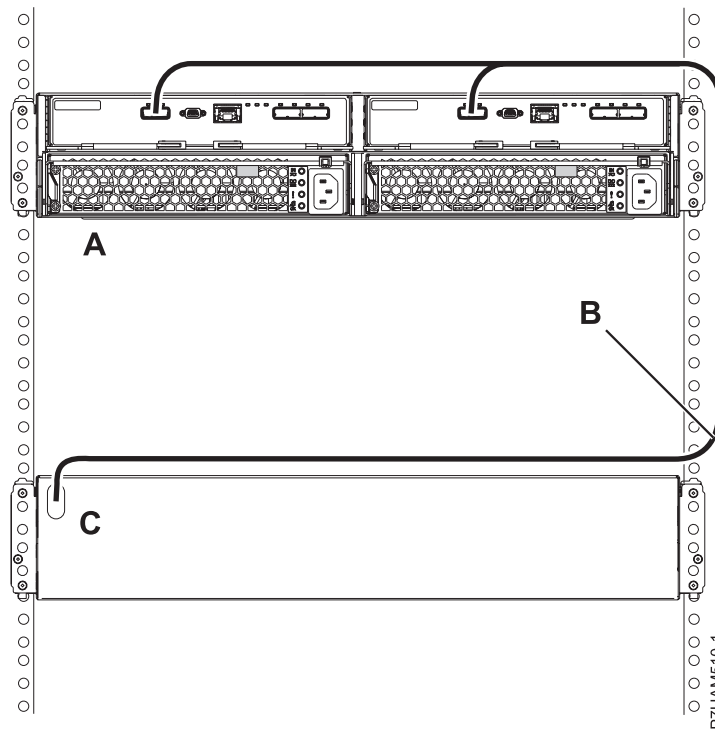

Figure 34. Mode 1 connection of one 58/87 disk drive enclosure by using a YI cable to a system with support for a single SAS drawer
7. Perform the mode 1 connection of one 58/87 disk drive enclosure (**A**) by using a YI cable (**B**) to a system with support for a single SAS drawer (**C**) as shown in Figure 34.